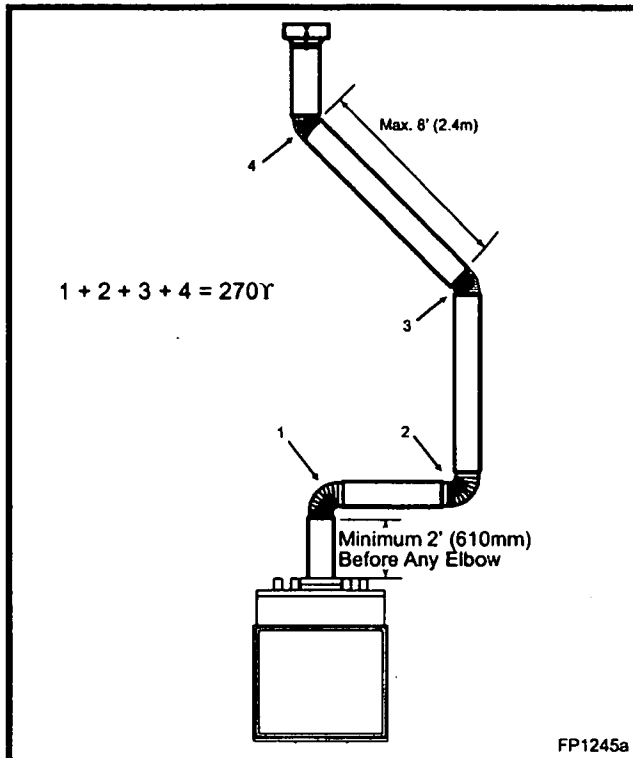

Fig. 30 Typical offset application.
- Two sets of 30° or 45° elbows offsets within these vertical installations. From 0 to a maximum of 8' (2.4m) of vent pipe can be used between elbows. (Fig. 30)